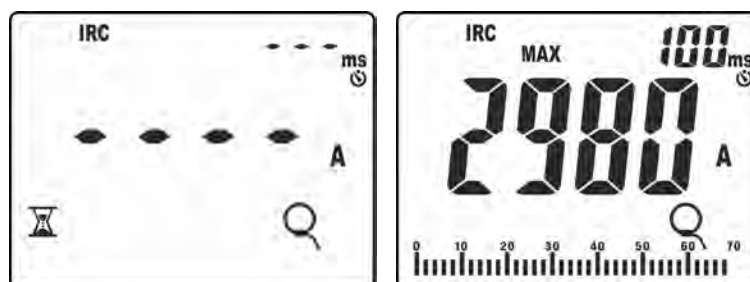

Fig. 41: Recognition of inrush current event
8. Press key **GO/STOP** to activate the function. The instrument waits for the event to be recognized (measured value higher than the fixed trigger threshold equal to **1%FS clamp: e.g. 30A with FS = 3000A**) and shows symbol "⌚" on the display (see Fig. 41 – left side).
9. Upon recognition of the event, **measurement stops automatically** and the instrument shows, in its main display, the **Max RMS** value calculated according to the evaluation time of **100ms** (default) indicated on the secondary display (see Fig. 41 – right side).